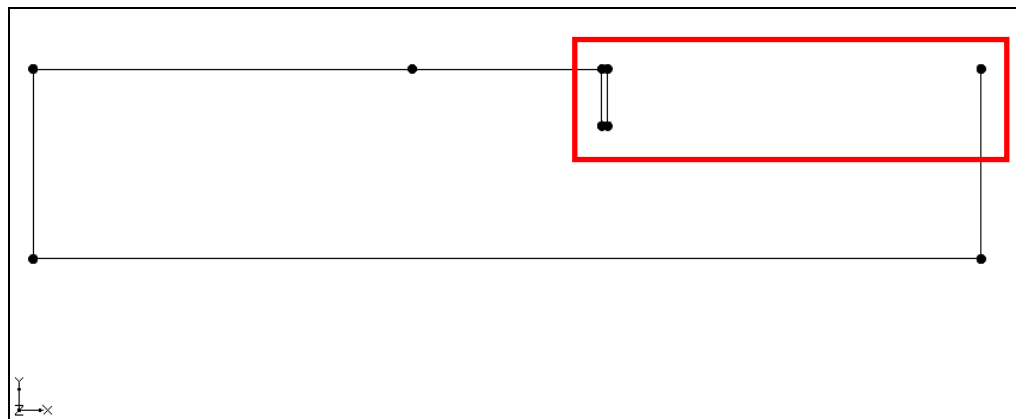

Figure 6 Zoom in to this area
- Using the **Zoom**  tool, drag a box as shown by the red box in Figure 6.